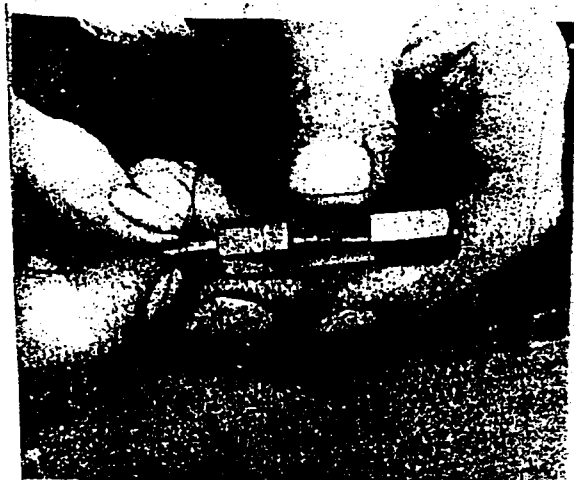

FIG 131
6. To clean the pintle end of the valve itself insert the valves into the appropriate end of the nozzle pin cleaner (ET.072) and rotate until all the carbon is removed, as shown in Fig. 131. Should this not prove completely satisfactory the brass wire brush (ET.068) may also be used and any hard pieces of carbon still not dislodged may be removed with a piece of wood or brass strip.